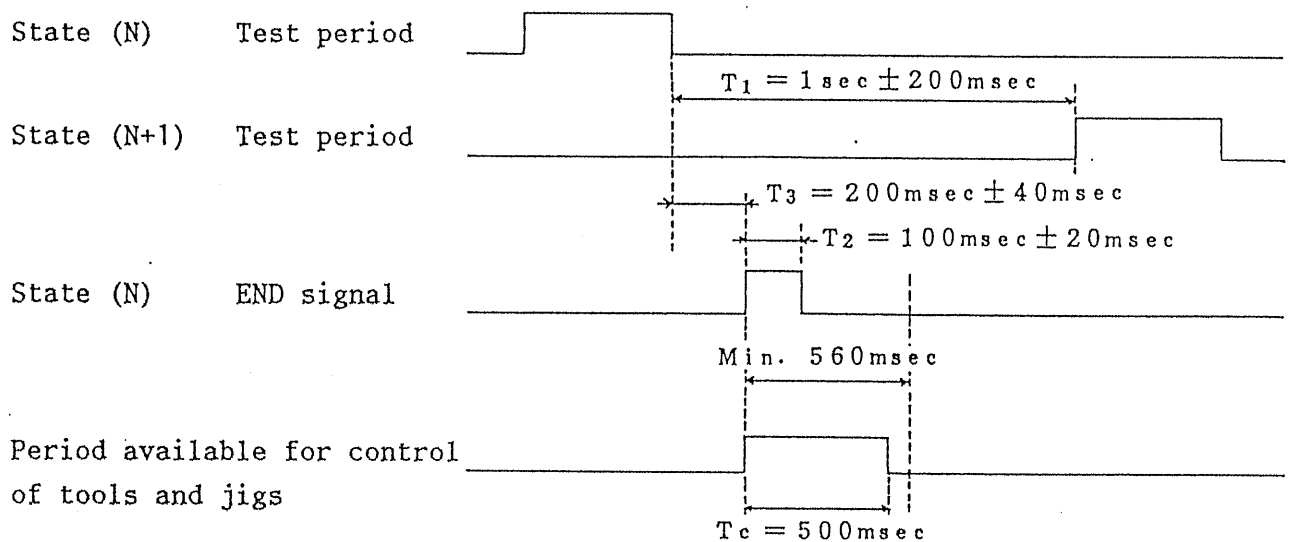

Figure 4.6
- (3) To control the tools and jigs for the tested objects by making use of the TEST END signals, the control actions must be completed within the period ( $T_c$ ) shown in Figure 4.6.